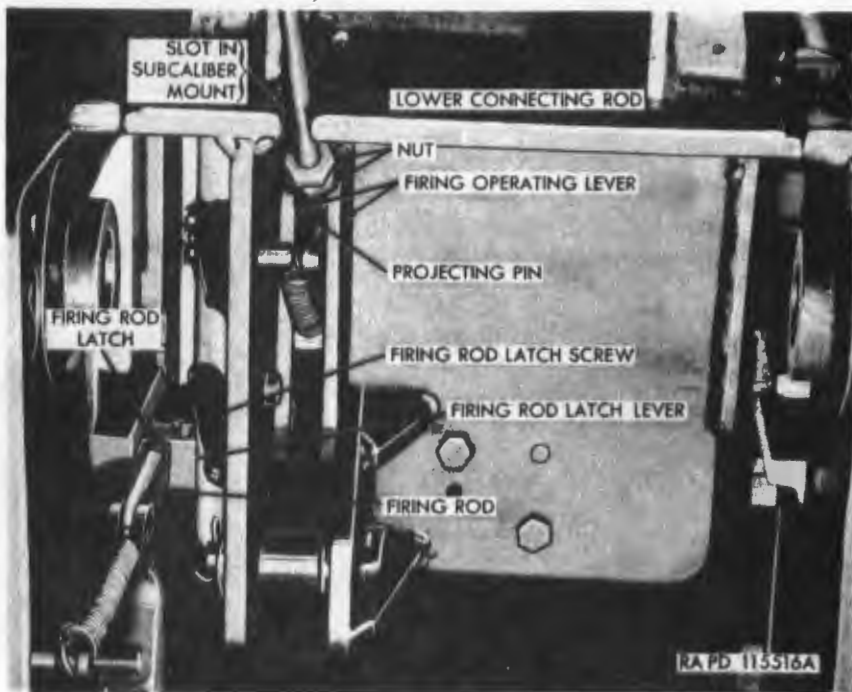

Figure 384. Connecting firing linkage of subcaliber mount to 40-mm dual gun M2A1.
Note. Be sure the firing rod latch lever and latch (fig. 384) are positioned correctly before securing mount in place.
f. Installing Firing Linkage. Rotate the firing rod latch lever (fig. 377) until the firing rod of the 40-mm dual gun engages in the lever slot, then slide the firing rod latch over the slot and firing rod, and tighten the firing rod latch screw (fig. 377). Hook the projecting pins from the lower connecting rod (fig. 384) into the slots in the firing operating lever, tighten the adjusting nut enough to prevent the connecting rod from becoming disengaged or from having too much play, and tighten the locking nut against the adjusting nut to prevent turning. Raise the lower connecting
rod through the slot in the subcaliber mount (fig. 384) until the striker lever (fig. 377) enters the connecting rod clevis. Align the holes in the clevis with the hole in the lever and insert the clevis pin assembly (fig. 377). If the connecting rod is too long or too short, loosen the jamnuts at each end of the turnbuckle (fig. 377), rotate the turnbuckle until the proper length is obtained and tighten the jamnuts.
c. Removing Firing Linkage. Remove the clevis pin assembly to separate the firing linkage from the striker lever (fig. 377). Loosen the two nuts holding the lower connecting rod (fig. 384) to the firing operating lever and remove the rod. Loosen the firing rod latch screw (fig. 384) and slide the firing rod latch so that the latch lever disengages from the 40-mm gun firing rod.